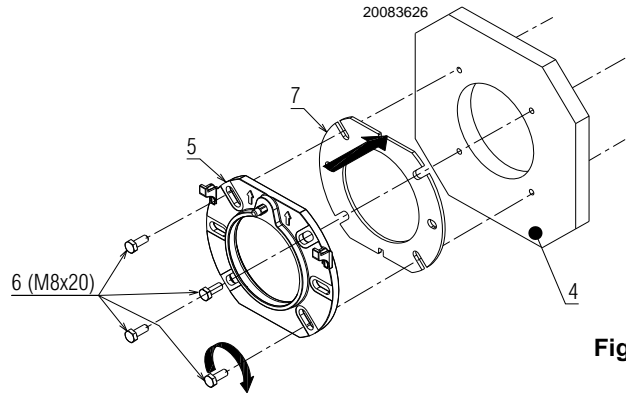
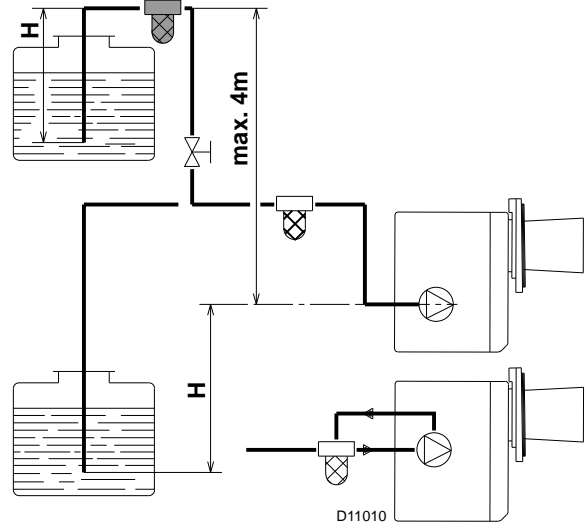

Fig. 7
Fig. 12
- Fix the flange 5) to the boiler door 4) using the screws 6) placing in between the insulating gasket 7)(Fig. 7);
The one pipe vacuum systems (Fig. 12) have a negative pressure (depression) at the burner inlet.
The Manufacturer recommends the use of a good quality fuel filter on the tank (Fig. 12), and a secondary filter (60µ for light oil and 15µ for kerosene), to protect the burner pump and nozzle from contamination.
On the system in Fig. 7 just loosen the plug of the vacuumeter 6)(Fig. 12) and wait until the fuel comes out.
On the system in Fig. 12 switch on the burner and wait for the priming. Should lockout occur prior to the arrival of the fuel, await at least 20 seconds before repeating the operation.